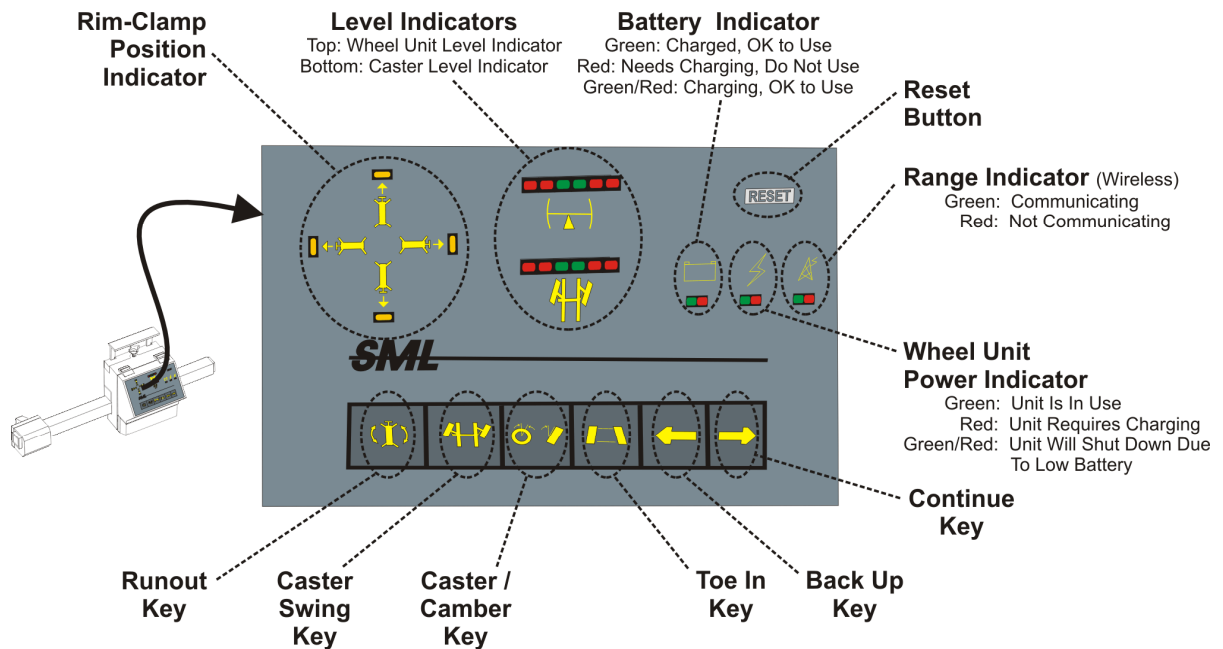

Figure 1-10. Wheel Unit – Operator Panel
1.3.3.4 Connect each of the SML Interface Module cables, to the wheel units. As the wheel units are powered, communication between the SML Interface Module and wheel units is established. Review the operator panel indicator lights (Refer to Figure 1-10), for each wheel unit. These indicators help to identify the status of each wheel unit.
- 1.3.3.5.2 Review Figure 1-10 and check the indicated status of each wheel unit.